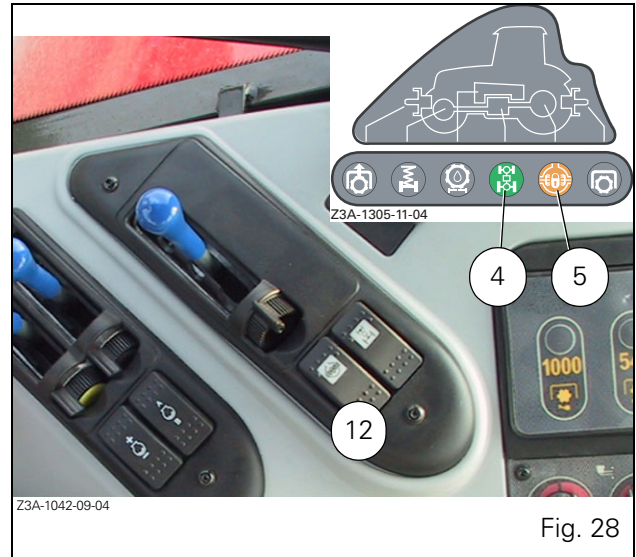

Fig. 28
To engage the differential lock, press the switch (12 Fig. 28). Differential lock engagement simultaneously engages the front axle, the differential lock (5) and front axle (4) instrument panel indicator lights come on.
**IMPORTANT:** Any use of the brakes cancels the differential lock. Press the switch (12 Fig. 28) again to re-engage it.